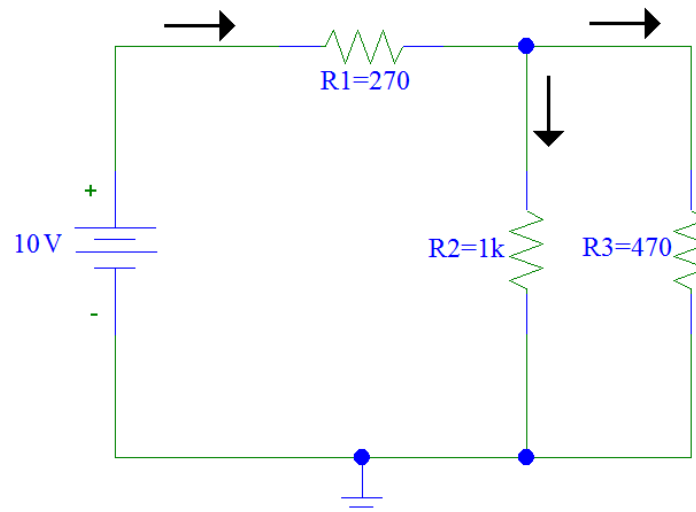

Figure 5 – Circuit for prelab questions 5 and 6. Three branch currents are shown.
5. Build the circuit of Fig. 5 in Multisim. Measure the three branch currents using the Multisim multimeter with ammeter resistance set to $1\text{ n}\Omega$, and then with the meter resistance equal to your result from part 2. Email the screen capture to your TA **BEFORE** your lab.
- Build the circuit in Fig. 5 and measure all three branch currents with your constructed ammeter.